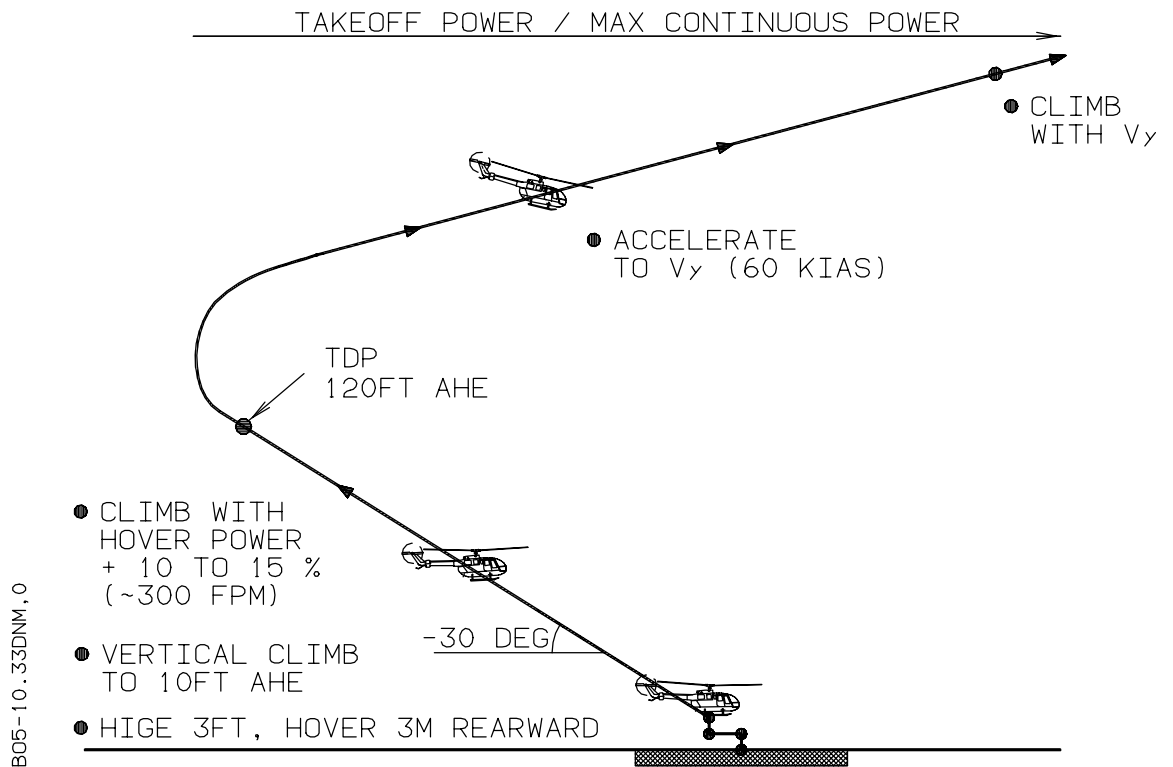

Fig. 14 VTOL - Vertical Takeoff Profile
4.1 HELIPAD VERTICAL TAKEOFF (see Fig. 14 and 15)